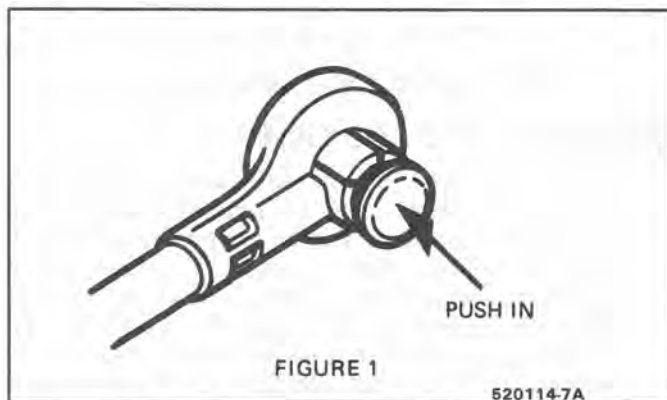

Fig. 2 Cable Removal (Plug Type)
- If cable end has a plug (reference Figure 2), push on plug to spread tangs then remove cable end from lever pin (shifter, transmission, etc.).